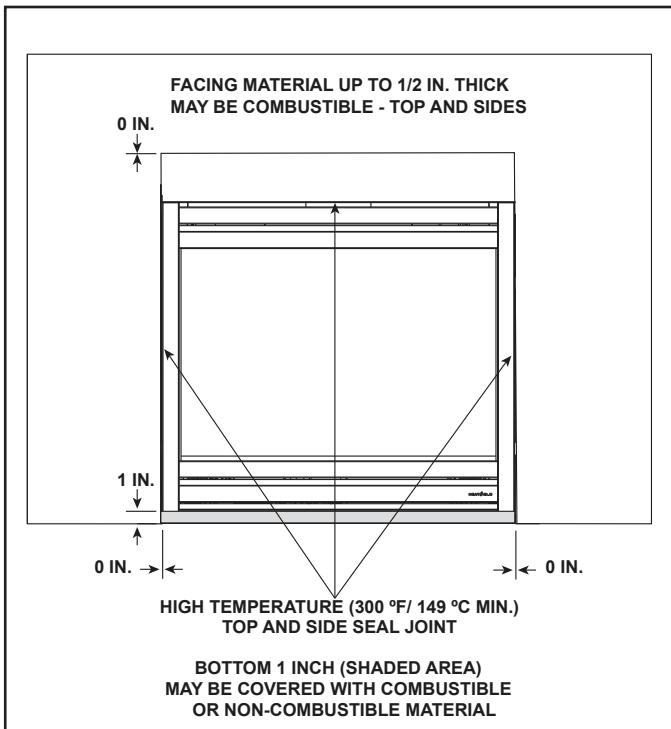

Figure 10.1 Facing Materials
- Seal joints between the finished wall and appliance top and sides using a 300 °F minimum sealant. Refer to Figure 10.1.